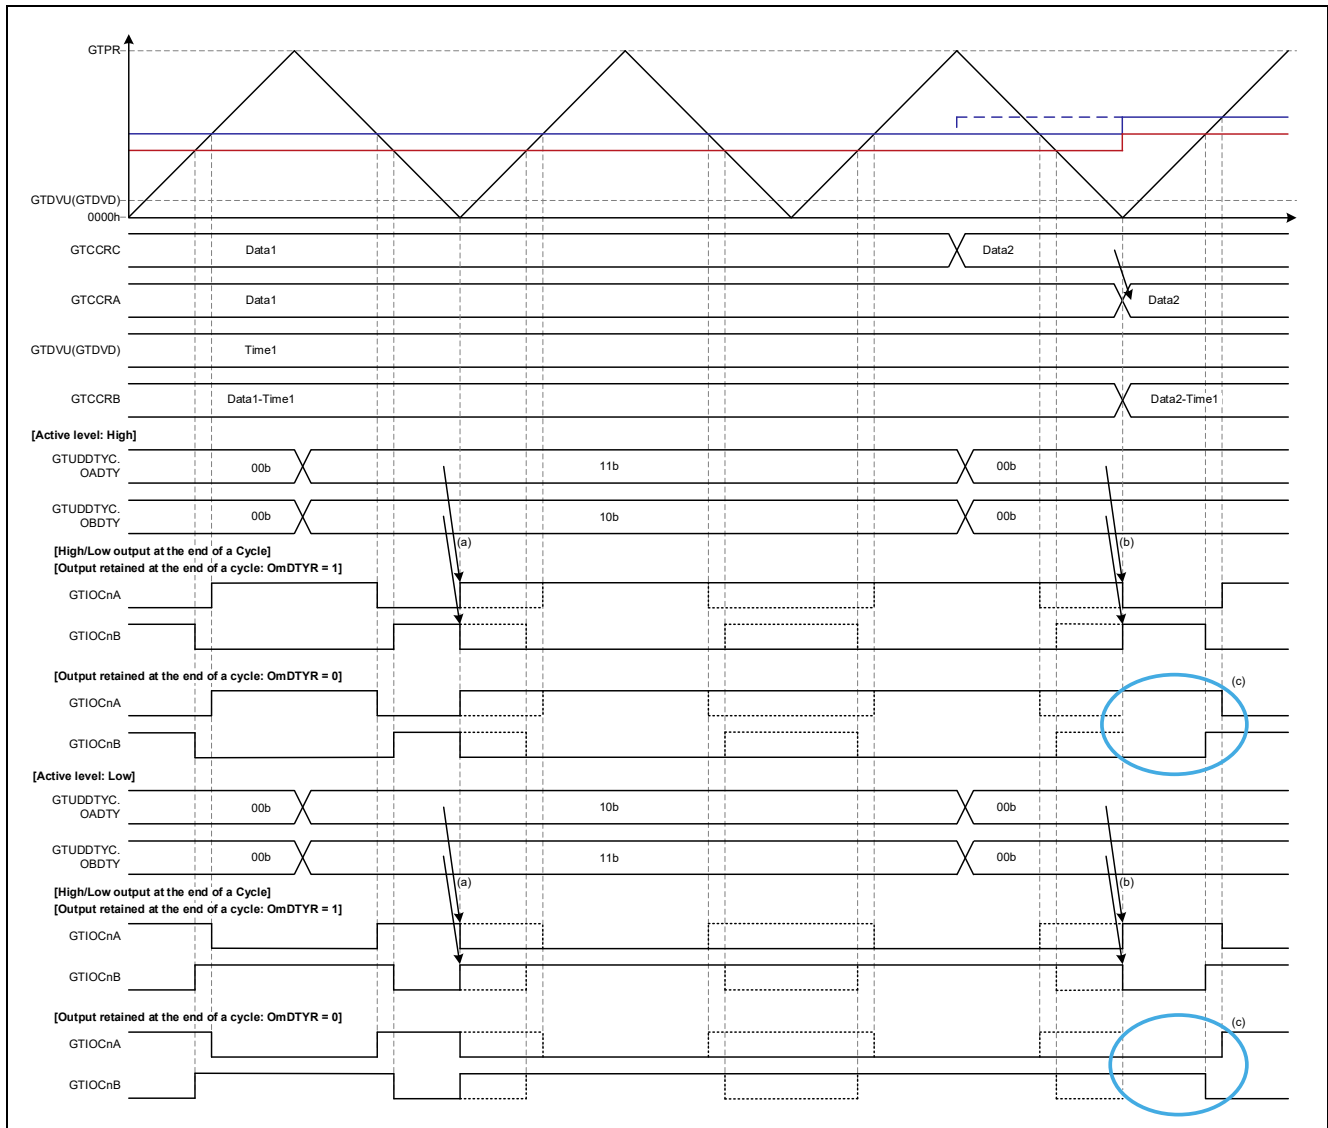
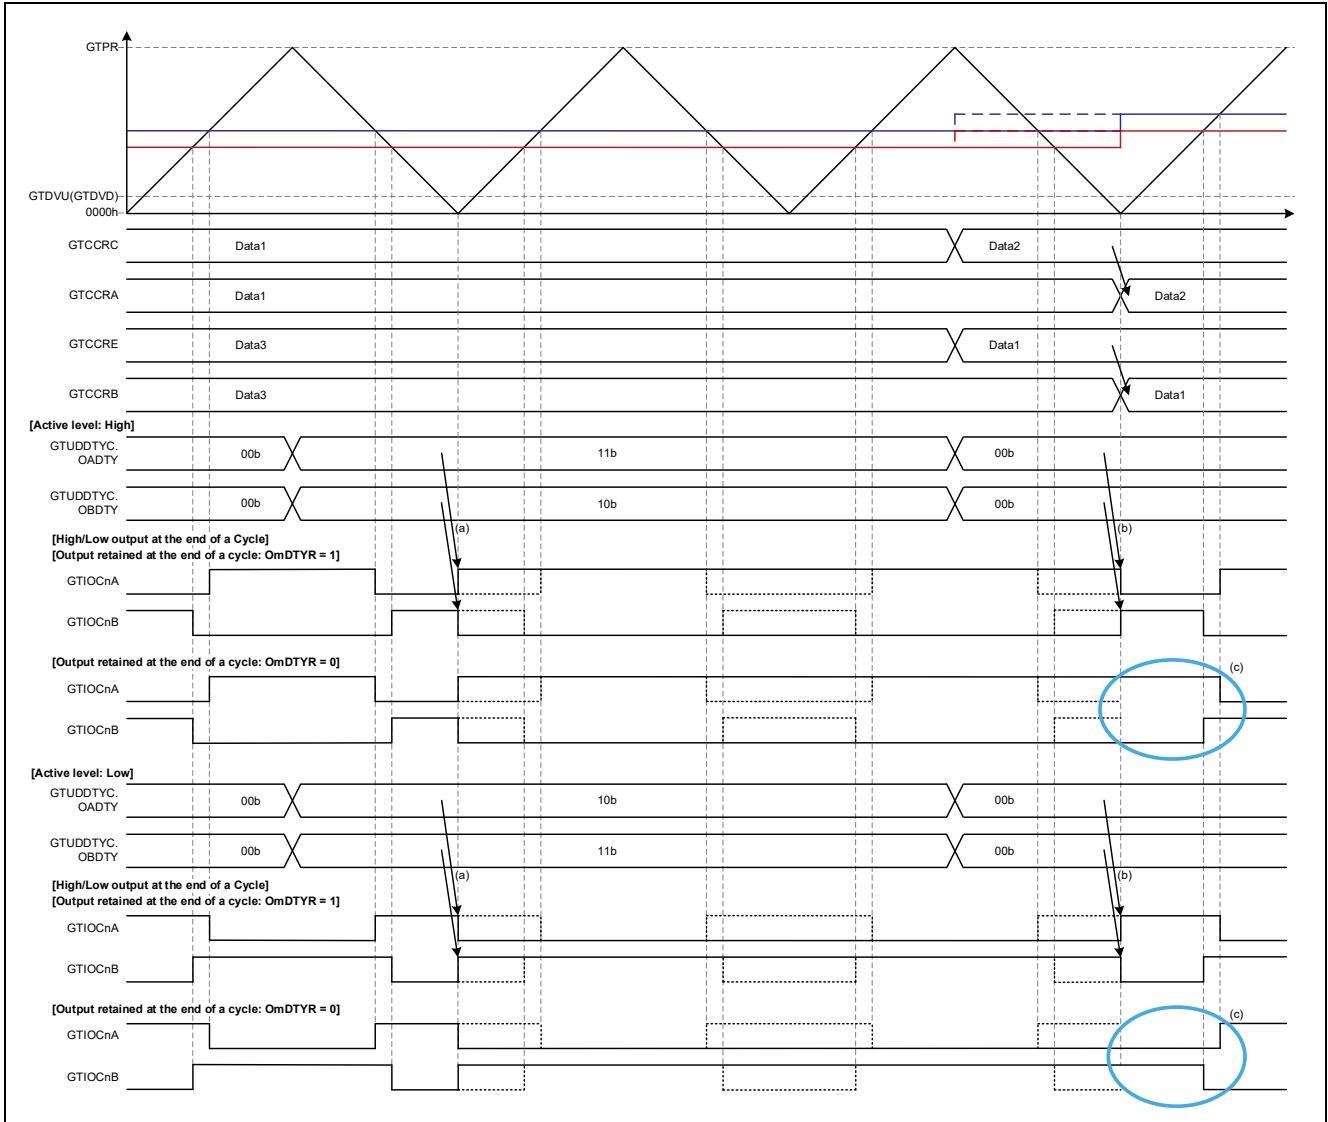
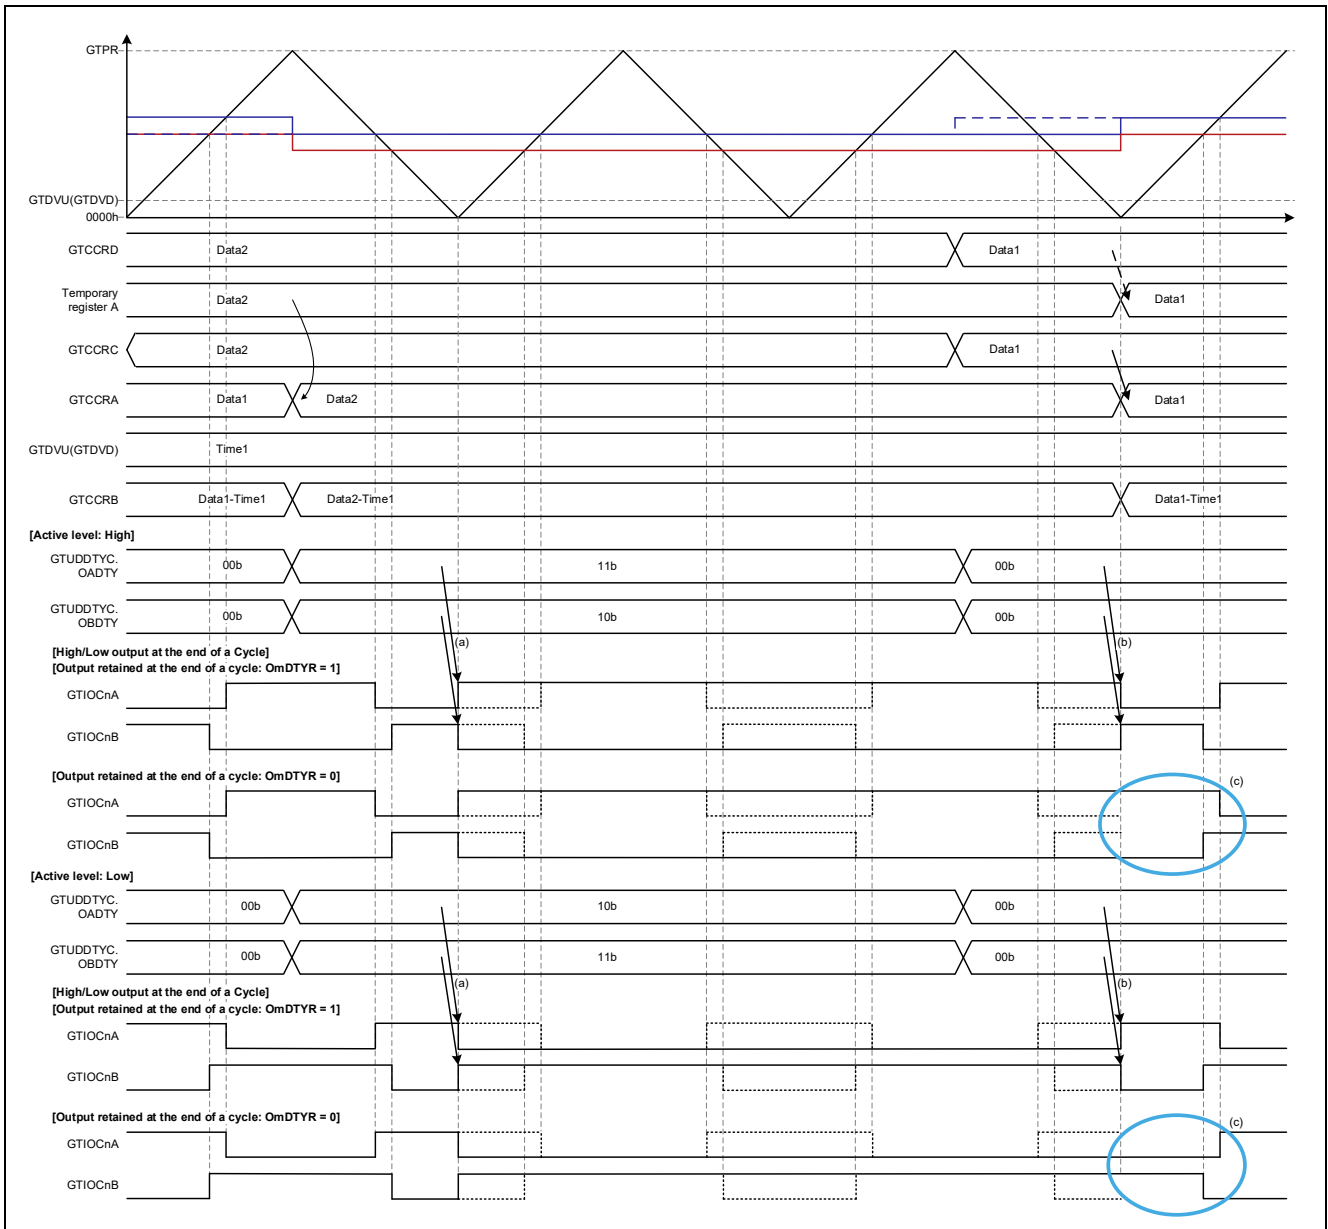
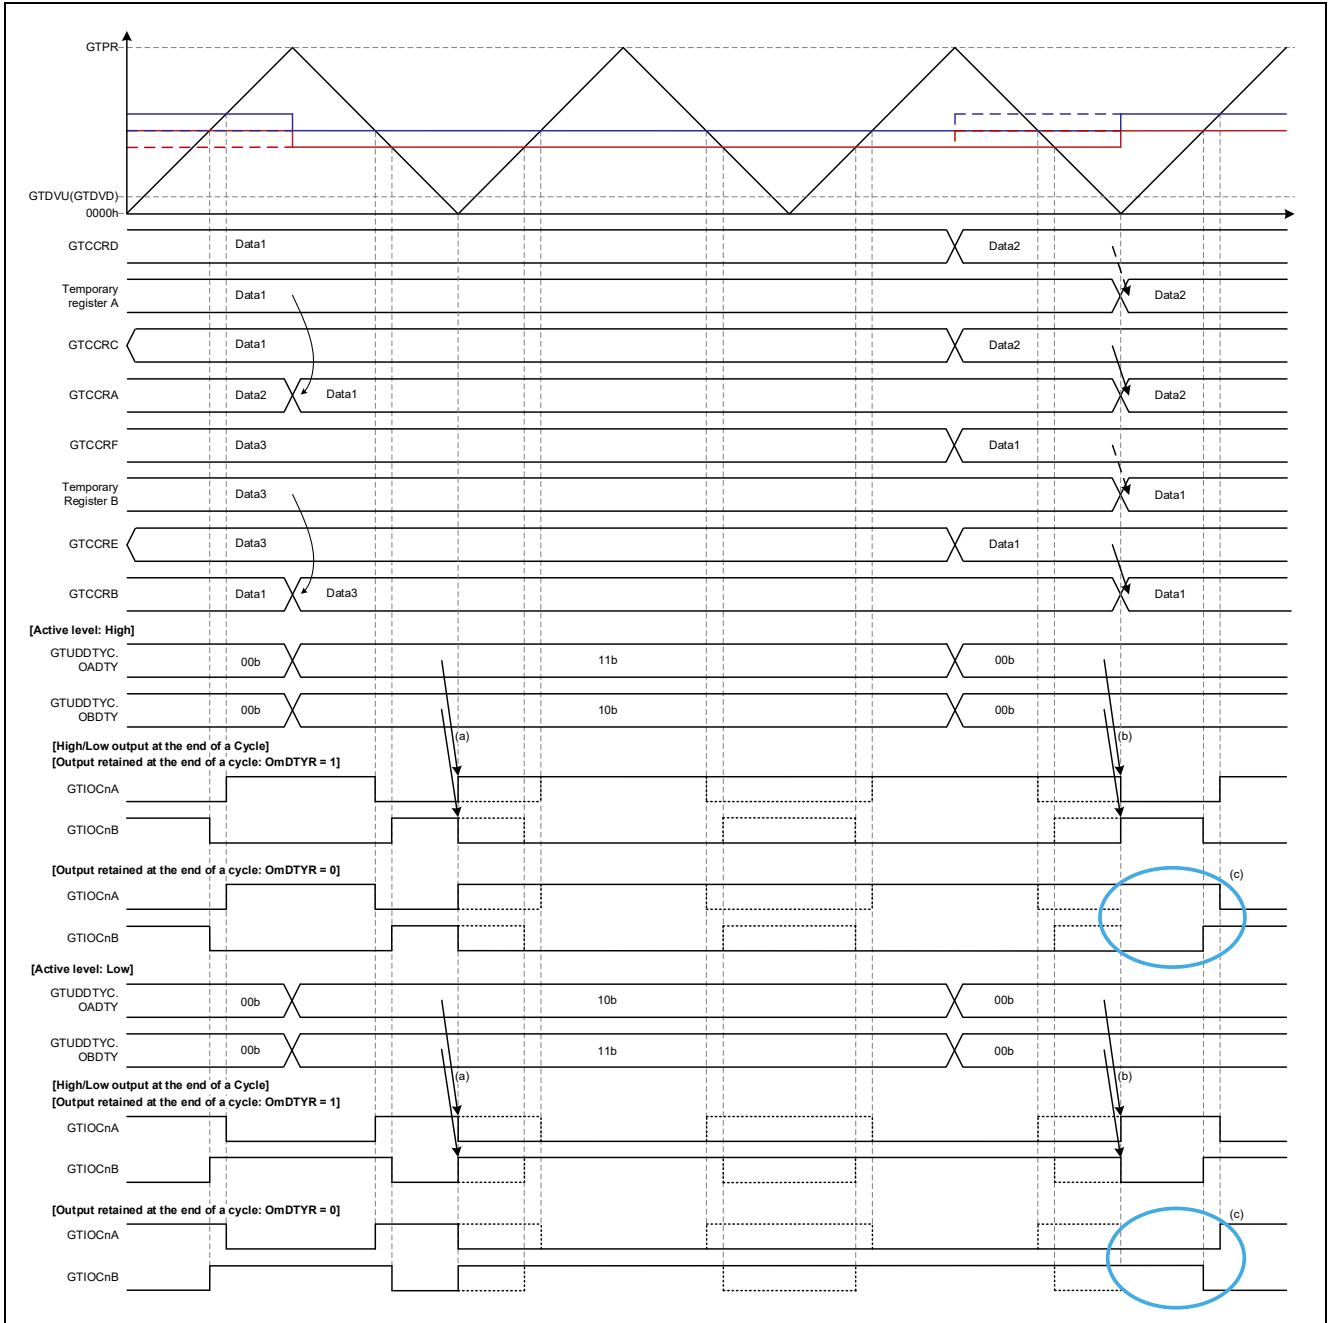

Figure 1.15 Triangle-Wave PWM Mode 1 Operation Example
Figure 1.16 Triangle-Wave PWM Mode 1 Operation Example
Figure 1.19 Triangle-Wave PWM Mode 3 Operation Example
Figure 1.20 Triangle-Wave PWM Mode 3 Operation Example
Figure 1.15 to Figure 1.20 illustrate the 0% and 100% duty cycle waveform output operation examples in each GPTW operating mode listed in Table 1.7.
- [Operation example 1] Figure 1.15, Triangle-Wave PWM Mode 1, Output Start: Trough, Automatic Dead Time Setting Function Enabled
- [Operation example 2] Figure 1.16, Triangle-Wave PWM Mode 1, Output Start: Trough, Automatic Dead Time Setting Function Disabled
- [Operation example 5] Figure 1.19, Triangle-Wave PWM Mode 3, Output Start: Trough, Automatic Dead Time Setting Function Enabled
- [Operation example 6] Figure 1.20, Triangle-Wave PWM Mode 3, Output Start: Trough, Automatic Dead Time Setting Function Disabled
Figure 1.15 shows an operation example with the automatic dead time setting function enabled in triangle-wave PWM mode 1.
Figure 1.16 shows an operation example with the automatic dead time setting function disabled in triangle-wave PWM mode 1. Except for the operation of the GTCCRB and GTCCRE registers, the operation is the same as that shown in Figure 1.15.
Figure 1.19 shows an operation example with the automatic dead time setting function enabled in triangle-wave PWM mode 3.
Figure 1.20 shows an operation example with the automatic dead time setting function disabled in triangle-wave PWM mode 3. Except for the operation of the GTCCRB and GTCCRE registers, the operation is the same as that shown in Figure 1.19.